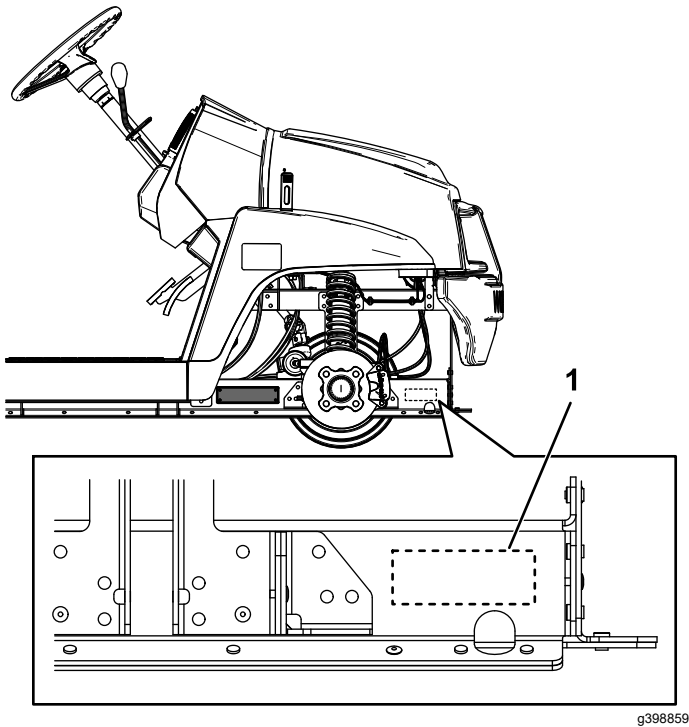

Figure 5
- Stamp the serial number on the machine in the location shown in Figure 5.